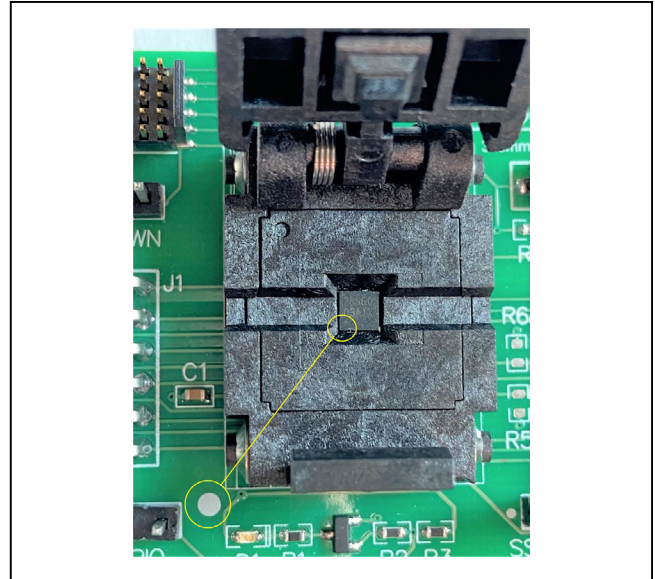

Figure 7. Orientation of the DS28S60 in Burn-In Socket
- Open socket and insert a DS28S60Q+ as shown in Figure 7. **Note:** Do not use the socket's pin 1 indicator. The pin 1 indicator is denoted on the PCB as a white dot and is located on the opposite side of the socket's marking.